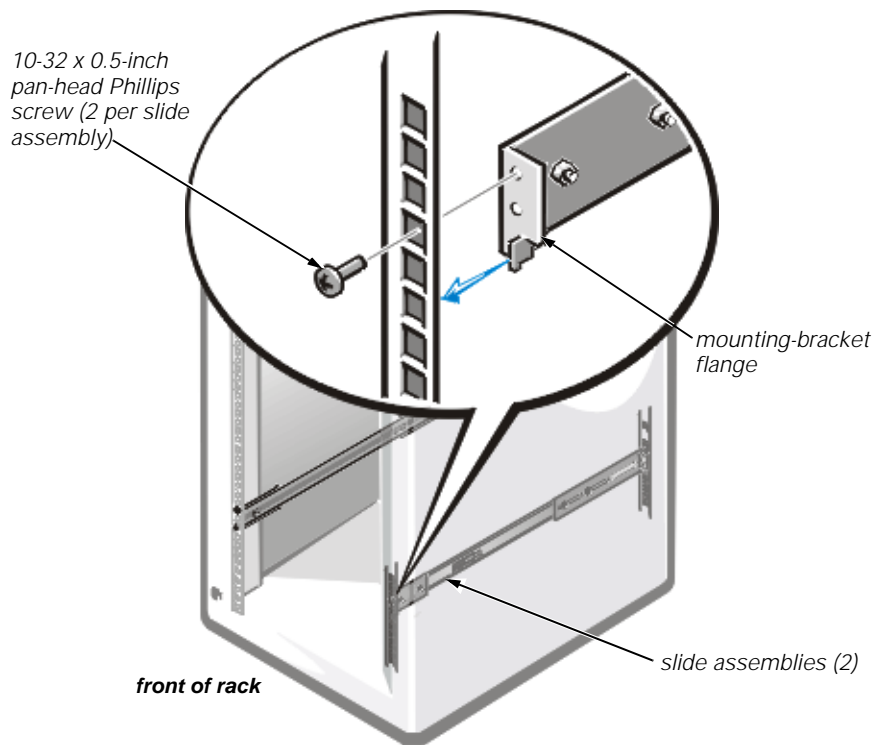

Figure 16. Installing the Slide Assemblies
3. At the front of the rack cabinet, position one of the slide assemblies so that its mounting-bracket flange fits between the marks or tape you placed on the rack, marking the upper and lower edges of the template (see Figure 16). The hooks on the bottom of the mounting bracket should enter the holes beside the lower marks you made in the vertical rails.
4. Secure the front of the mounting-bracket flange with a 10-32 x 0.5-inch pan-head Phillips screw in the front vertical rail (see Figure 16).